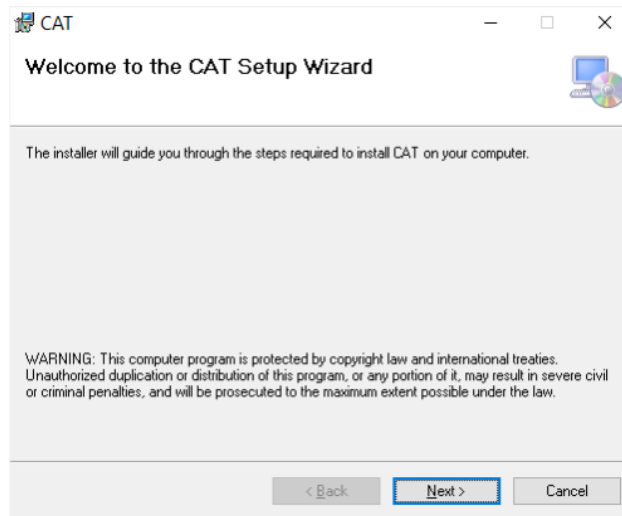

Fig. 14: Screen for designating location of CAT Program Files
5. When you reach the screen shown in **Figure 14**, you will be given a choice of directories into which the CAT software (including the default settings) can be loaded.